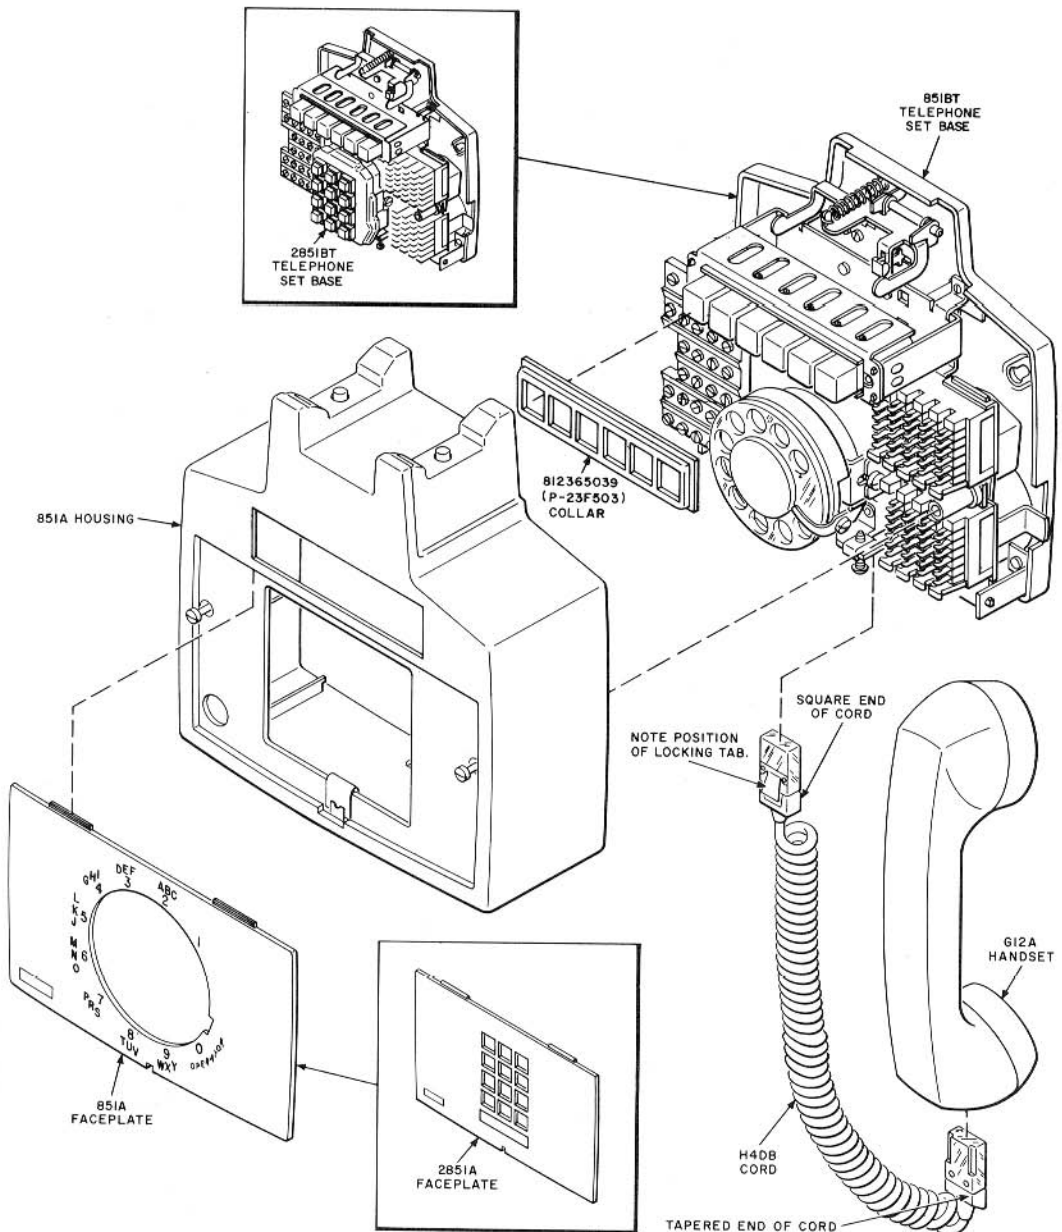

Fig. 19—Station Modular Arrangement, 851BT and 2851BT Telephone Set Showing Later 851A Housing and Base Plate
**3.19** Install H4DB handset cord in later production models of 851- and 2851-type telephone sets by inserting the end of the cord having the tapered plug into the handset and the square end into jack on bottom of set. Spring locking tab should face away from wall at bottom of set (Fig. 19).